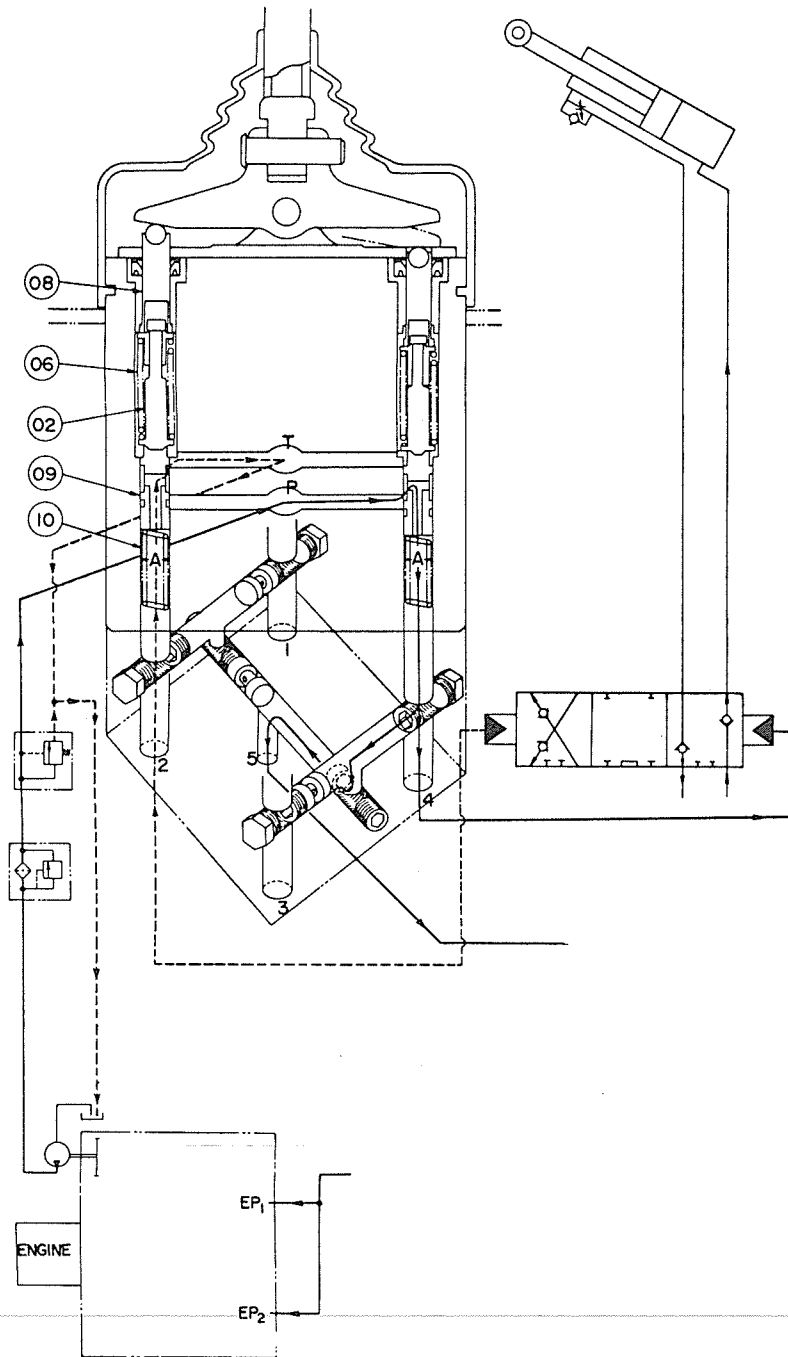

Fig. 1
One lever type pilot valve mainly consists of four each of pushers (08), spring (06), spring holders (02), spools (09) and return springs (10), and these are installed in the valve body. In addition to the above assembly, the shuttle valve assembly is equipped on the bottom as shown in in Fig. 1.